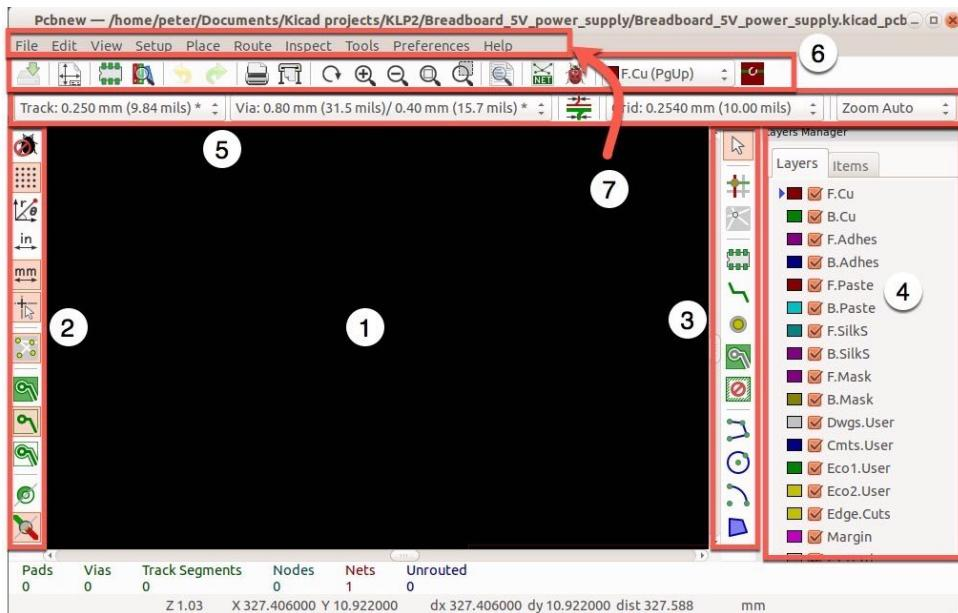

Figure 9.3: The Pcbnew main window, with its toolbars annotated.
Pcbnew will start, and you will see the main window. It should look like the example in Figure 9.3.
Compared to Eeschema, Pcbnew may seem more complex and even intimidating, but rest assured, it isn't. In this part of the book, I will help you to learn only the most important functionalities so that you can start designing your PCB very quickly. Just like we did in the Eeschema segment, we'll start with the basics of the layout sheet (item 1 in Figure 9.3), then learn about the mouse and hotkeys controls, and then the toolbars and menu bars (the rest of the items in Figure 9.3).
You can see the standard Pcbnew window in Figure 9.3. Following is a quick summary of the purpose of each bar. We'll look at some more details at later parts of this book.
The left toolbar, marked '2' in Figure 9.3, contains functionality for controlling the visual representation of the various elements of the PCB, as well as of the user interface. For example, you can turn on or off the display of rats nest lines. These lines show incomplete connections between pads. You can also show or hide the part of the right toolbar that allows you to switch to particular layers.
The right toolbar, marked '3' in Figure 9.3, contains the main functions needed for editing the contents of the sheet. This is where you will find buttons for adding a new footprint, new tracks, and vias, text or graphics on your sheet.
Next to the right toolbar is the Layers manager, marked '4' in Figure 9.3. You can hide it by clicking on the Layers button in the left toolbar if you are working on a small monitor and you want to maximize the available space in the sheet. The Layers manager allows you to select the board layer on which you want to work next. For example, if you want to work on the front layer, you will click on the 'F.Cu' option to select it. If you want to work on the back layer, you will click on the 'B.Cu' option.
At the top of the Pcbnew window are three groups of functions. Two toolbars, and the drop-down menus. Marked as '5' in Figure 9.3 is the Sizes toolbar. It allows you to select sizes for the tracks, vias and the sheet grid.
On top of it is the main functions toolbar, marked as '6' in Figure 9.3. This is where you will find functions for saving your work to a file, printing your layout on paper, exporting it for manufacturing, performing the design rules check (an equivalent of the Electrical Rules Check in Eeschema), and importing the Netlist file that you created in Eeschema.